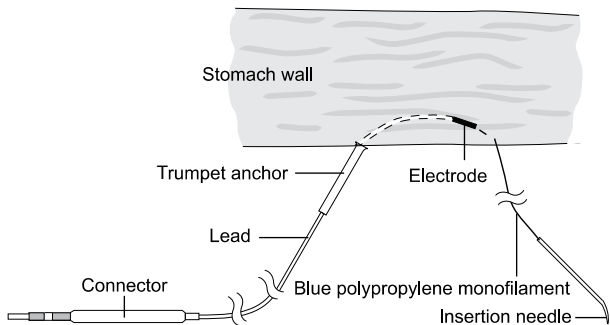

Figure 3. Insert electrode into muscle wall.
- a. Gently pull the blue polypropylene monofilament to insert the electrode into the muscle wall, making sure that the electrode lies within the stomach wall muscle (Figure 3).